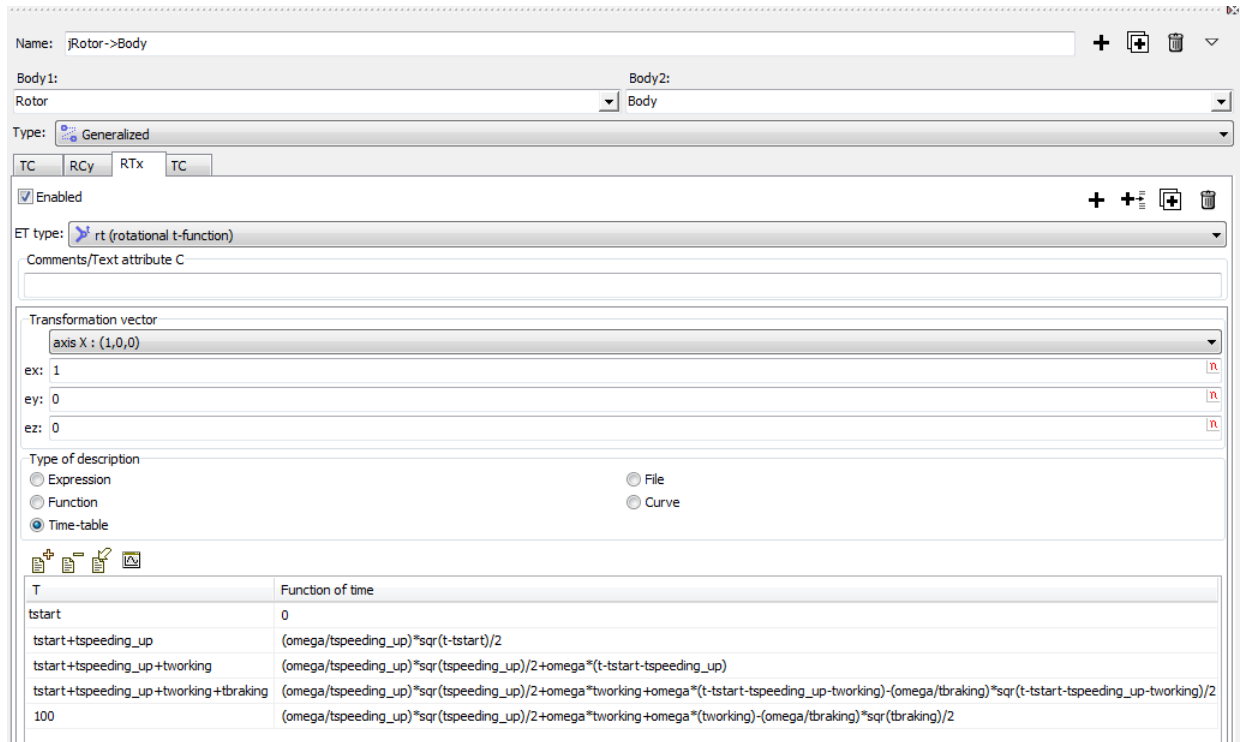

Figure 2.50.
3. In the **Inspector** window in the right part select the RTx elementary transformation (Figure 2.50.) This time function is set as **time-table** of 5 rows, see Table 2 and Figure 2.50.